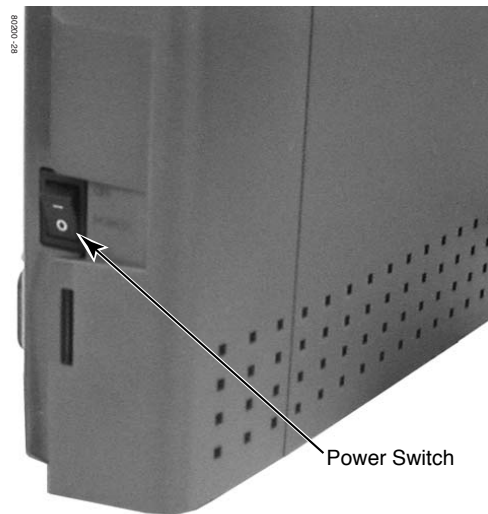
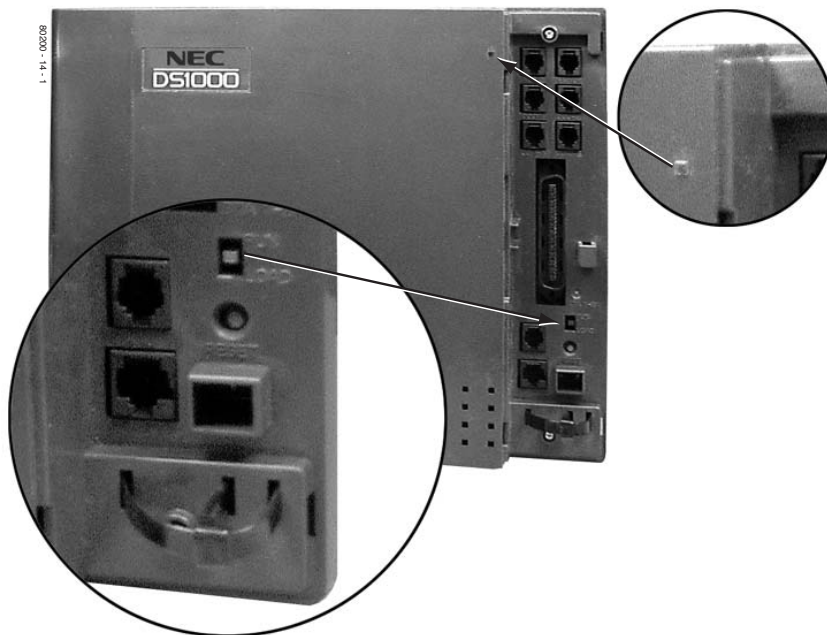

Figure 3-3: Power Switch
Figure 3-4: Power LED and Mode Switch
**To power up the system** (Figure 3-3) and (Figure 3-4):